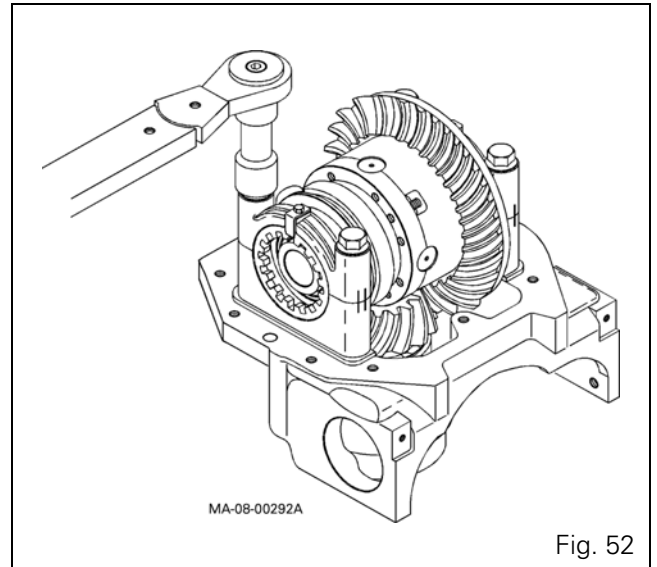

Fig. 52
56. Tighten the screws of the two half-bearings with a torque wrench to the required torque (see section 8A01 § A) (Fig. 52).